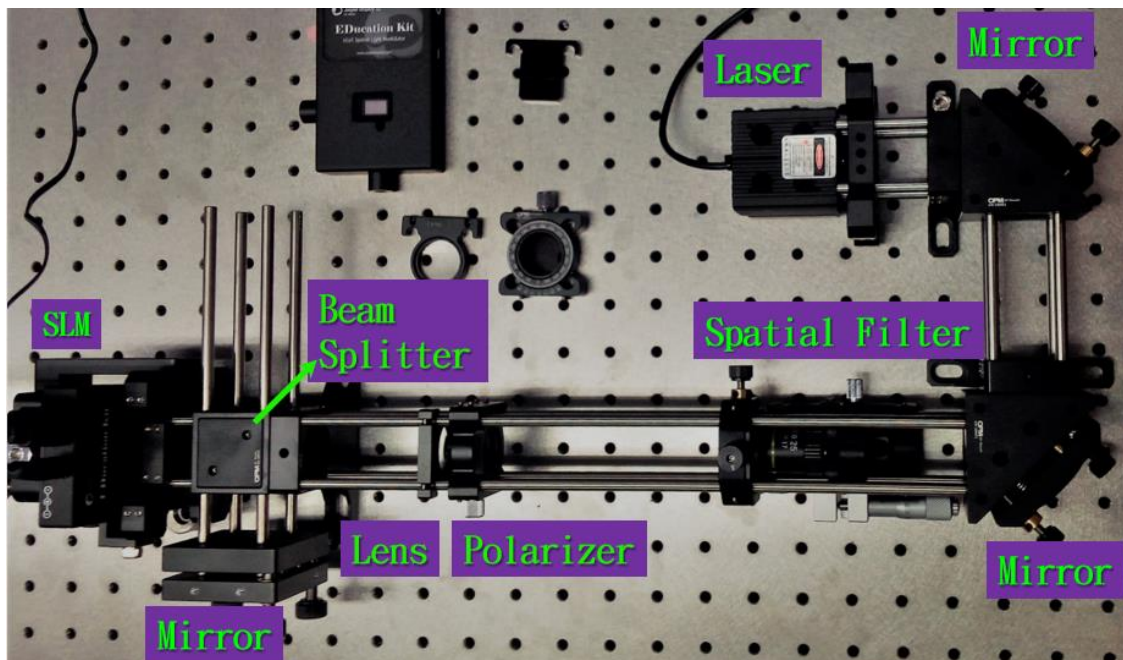

Figure 2
1. Setup instruments as shown in Figure 2. Make sure that the light emitted by the laser runs parallel to the surface of the table. Also make sure that the light beam passes through the center of each component and it enters each component perpendicularly.